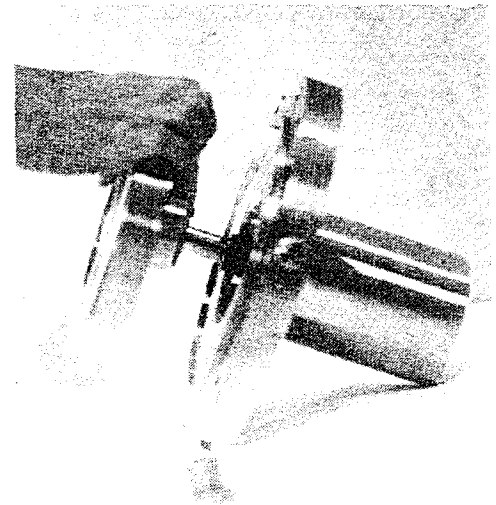

Figure 18
10. Remove the impeller nut and carefully place the rear casing on its side for horizontal installation of the casing cover. Align the two flush holes vertically on the casing cover so the pin located on the **VERTICAL POSITION** of the rear casing flange engages the hole in the casing cover. Hold the loose bushing in place while sliding the casing cover over the shaft [Fig. 18]. Be careful of the tight tolerances between the bushing and sleeve.